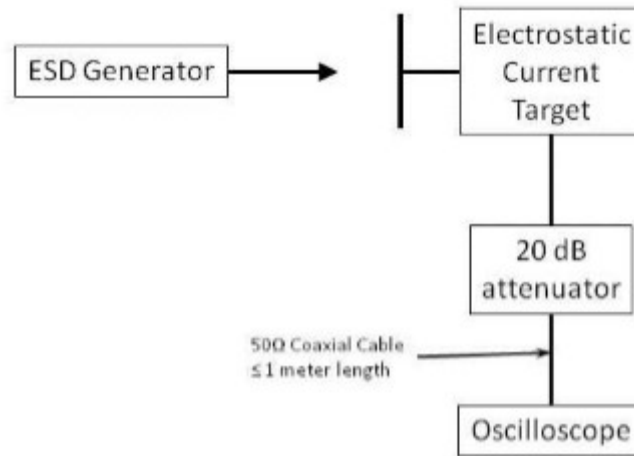

Figure 5.6-2: Measurement System Check Setup, Discharge Current Verification
1. Setup the ESD current target, attenuator, and oscilloscope as shown on Figure 5.6-2.